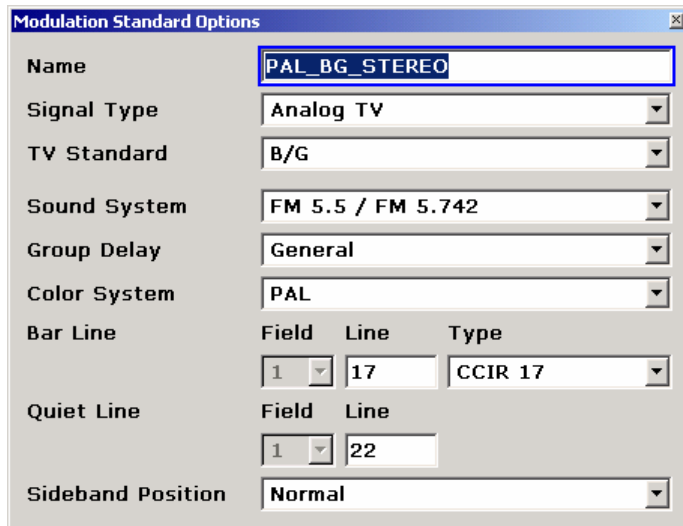

Fig. 2-66 Analog TV modulation standard PAL\_BG\_STEREO
The **Modulation Standard Options** dialog box appears (see for example Fig. 2-66).
- The **Modulation Standard Options** dialog box should now look as in Fig. 2-66.
- The **Modulation Standard Options** dialog box is displayed (see for example Fig. 2-66).